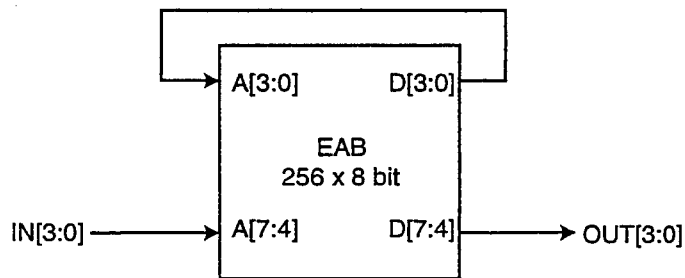

Figure 5.1
5. *Figure 5.1* shows the schematic of a 4-input, 4-output finite state machine (FSM) implemented using an Embedded Array Block (EAB) in Altera's FLEX10K PLD device. The input $IN_{3:0}$ to the FSM is one-hot encoded. The EAB is configured as a 256 x 8 ROM with registered address inputs. The contents of some of the ROM locations are shown in *Figure 5.2*. All the other locations contain the value 0.